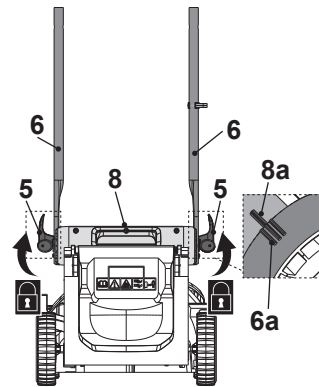

Fig. 2
3. Secure the lower handle bars (6) by folding up the clamp levers (5) towards the lower handle bars (6). If the clamp lever (5) cannot be folded, loosen it and fold again. If it is too loose, tighten it by turning the clamp lever (5) clockwise (Fig. 2).
6. Attach the washer (5a) and screw in the clamp lever (5) clockwise through the thread of the mounting bolt (5b), lock it by folding up the clamp lever (5) towards the handle. If clamp lever (5) cannot be folded, loosen it and fold again. If it is too loose, tighten it by swinging the clamp lever (5) (Fig.2, step 3).
7. Do it again on the other side. Make sure that the interconnection cord (18) run on the upper side of the handle bars (4, 6).